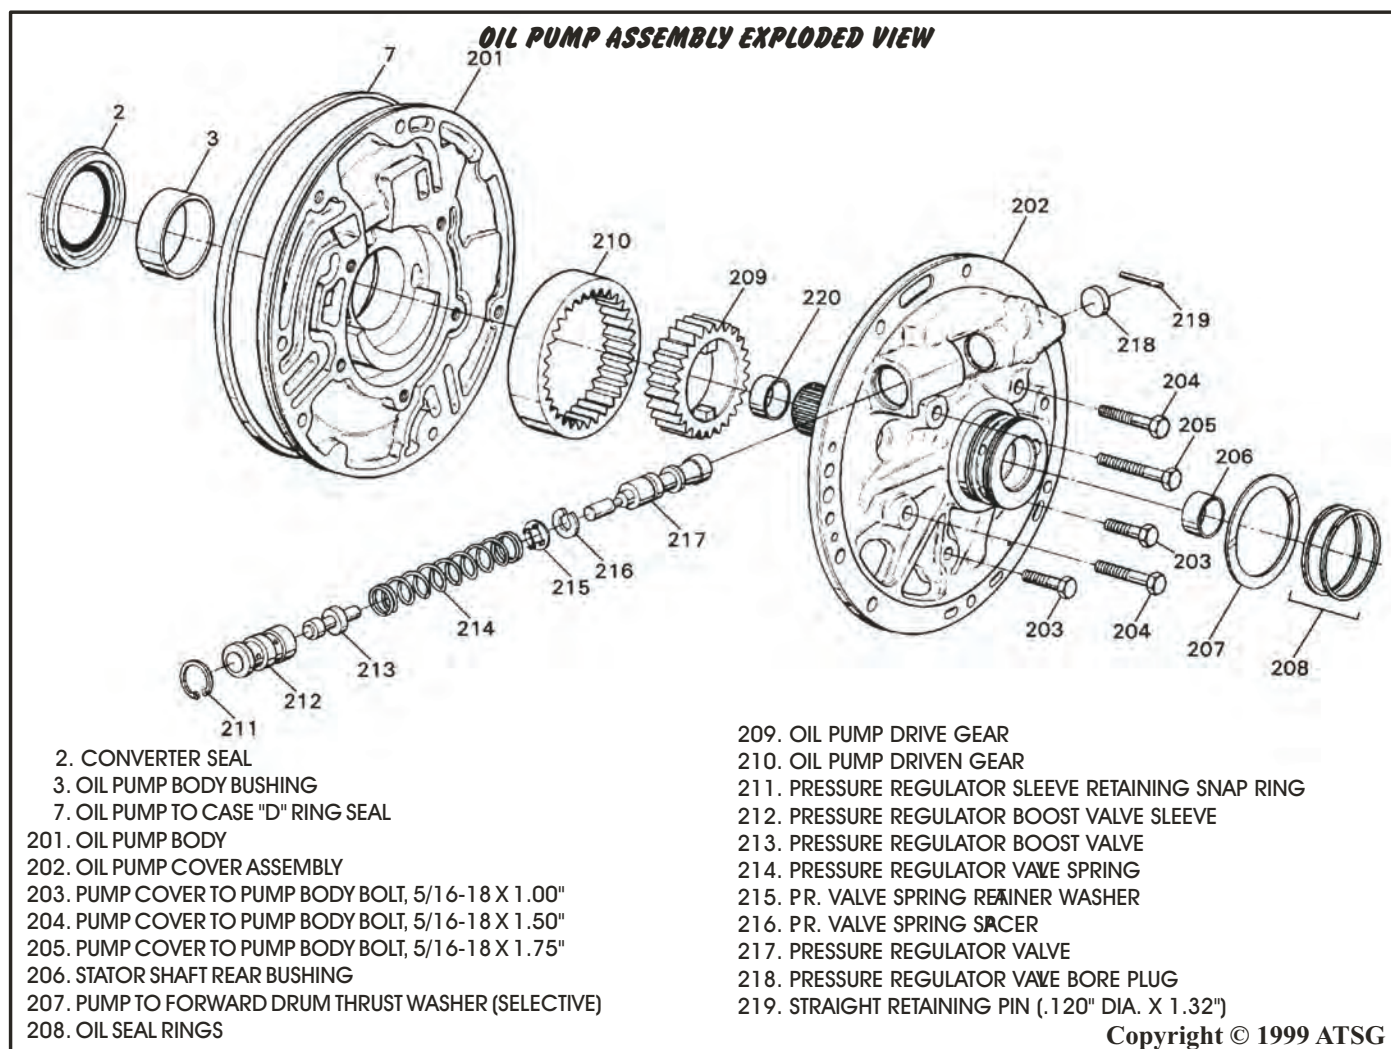

Figure 97
15. Install the pressure regulator bore plug and the straight retaining pin into oil pump cover, if it was removed, as shown in Figure 97.
16. Install the proper pressure regulator valve into oil pump cover, as shown in Figure 97.
17. Install pressure regulator spacer or spacers, if they were used, as shown in Figure 97.
18. Install pressure regulator spring and retainer into pressure regulator bore (See Figure 97).
19. Lubricate pressure regulator boost valve and install boost valve into boost valve sleeve as shown in Figure 97.
20. Install the boost valve and sleeve assembly in the pressure regulator bore, push in with a pin punch to overcome spring pressure and install the retaining snap ring (See Figure 97).
23. Install new pump to case "D" ring seal in the groove in the pump, ensure that it is not twisted and lubricate with small amount of TransJel. (See Figure 97).
24. Install the correct selective thrust washer, as determined by the front end-play check during disassembly, and retain with TransJel. Refer to Figure 97.
25. Install the two oil seal rings into the grooves in the pump cover and lubricate with a small amount of trans fluid (See Figure 97).